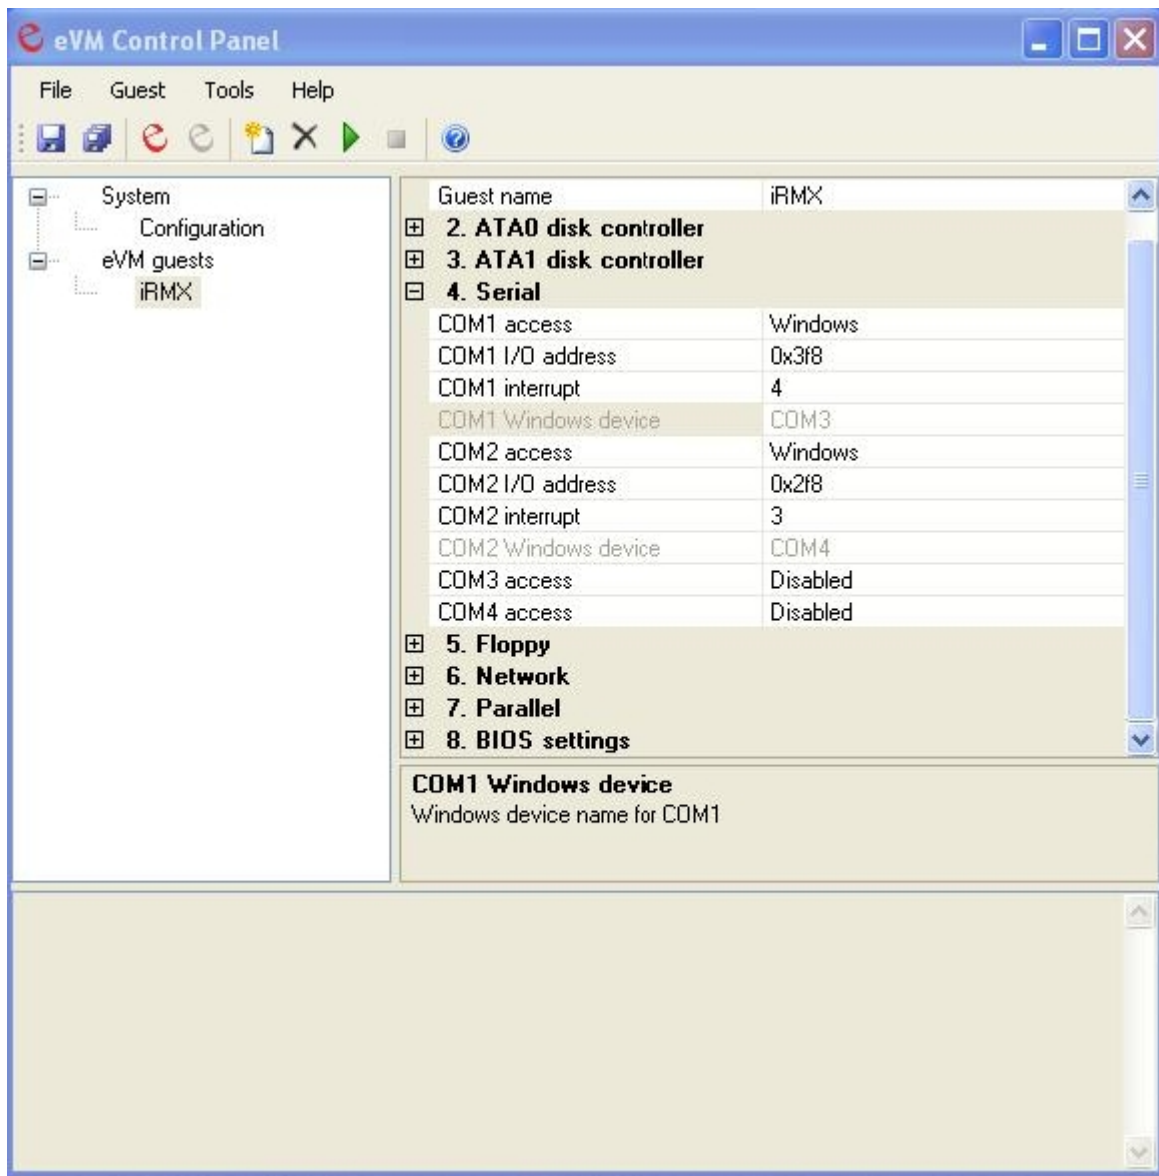

Figure 4.26 - eVM Control Panel Showing Guest Serial Device Settings
5. Now, let's connect the virtual COM ports in the guest OS to the virtual COM ports of the Windows. Open eVM Control Panel, select the guest OS in the left pane (in this example it is iRMX), and expand the serial section in the right pane, Figure 4.26.